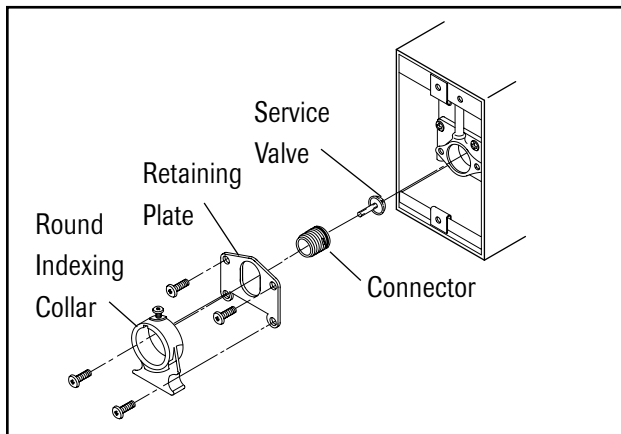

Figure 7a
Removing a Series A Connector (Figure 7a and 7b)
1. **Round in shape:** Remove the two screws at the bottom of the collar and discard the collar. Beneath the collar is a retaining plate; remove the two screws from the retaining plate and lift it from the block. Remove the connector and service valve (vacuum outlets do not have a service valve). Retain the plate and two screws for use when installing the upgrade connector (Figure 7a).